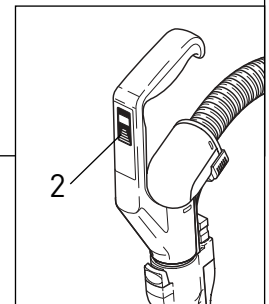
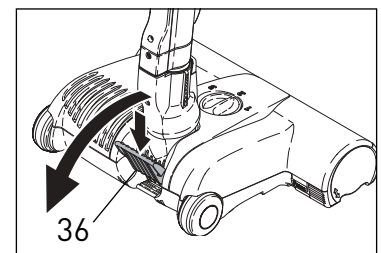
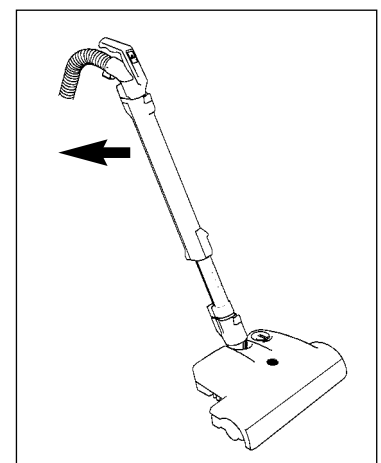

Figure 5
Figure 6a
Figure 6b
1. With the canister main power switch in the OFF position, and the power control slider on the handle (#2, figure 5) in the OFF position, pull the power cord out from the base of the canister. The power cord should be unwound from the cable reel at least two thirds of its length. The cable rewind is operated by pressing the rewind pedal (16). Before rewinding the cable, always switch off and unplug the vacuum.
3. Press the main power switch on the base of the canister gently with your foot or hand. The green light (13) will illuminate indicating that the power is on.
4. Slide the Power Control Slider (#2, figure 5) to the ON position (the slider will "click" when it is pushed out of the OFF position). It will then slide freely between 0 suction and MAX suction. Set the slider to the suction desired. Release the foot pedal (ET-1, ET-2, ET-C) on power head (#36, figure 6a) or, for the ET-H, lower the handle (figure 6b).
## Operating The Machine - Figures 6a & 6b
To release the ET-C, ET-1 or ET-2 power head from the upright locked position, press down on the foot pedal (#36, figure 6a) and lower the handle into the normal operating position. The brush roller will then start spinning and the green light on the power head will illuminate.
To release the ET-H power head from the upright locked position, gently place your foot on the power head for leverage and lower the handle into the operating position (figure 6b). The brush roller will then start spinning. The amber indicator light may flicker for a few seconds when you lower the handle - this is normal.
You may adjust the suction control with the power control slider (#2, figure 5) as you vacuum different surfaces or when using the accessory tools. For optimal cleaning and brushing, operate the machine at the maximum suction power setting and push the power head slowly over the carpet.
When the canister's main power switch is in the ON position, you may turn the power head off and on with the power control slider (#2, figure 5). To turn the power head off using the power control slider, pull the slider to 0 suction, then continue pulling the slider up until it "clicks" into the OFF position. The green power head light will then shut off (the green light on the canister (10) will remain illuminated until the vacuum is powered off using the main power control knob).
Switch Position - #2, Figure 5